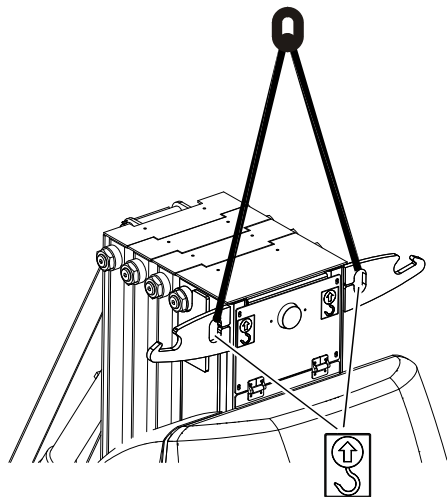

Figure 4-10. Lifting the Machine
- Attach lifting straps/chains at BOTH lifting lugs as shown in Figure 4-10.